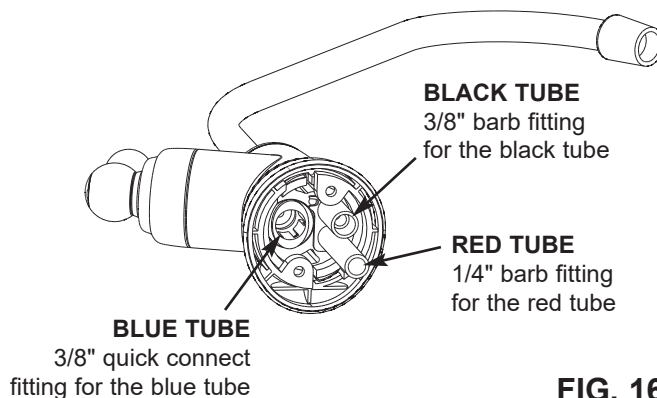

FIG. 16
4. Feed a length of 3/8" blue tubing up through the hole and insert end into the push-in fitting on the bottom of the faucet. See Figure 16. Push tubing through the collet and all the way into the fitting. Full engagement is 3/4" length of tube into the fitting. Pull on the tube to be sure it's held firmly in the fitting. The other end of this tubing will be connected to the RO system, as shown on page 16.
C. Insert all the way onto the 1/4" faucet barb fitting on faucet. See Figure 16.
6. Feed a length of 3/8" black tubing up through the hole and connect to the 3/8" barb on the bottom of the faucet. See Figure 16. The other end of this tubing will be connected to the drain, as shown on page 16.